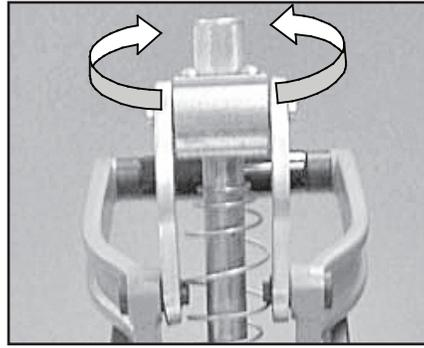

Figure 3 - Press 3640
- 3.5 Rotate the shut height to lower or raise adjustment feature until the bottom of the shaft contacts the desired position on the shut height gauge. (Figure 3 and 4)